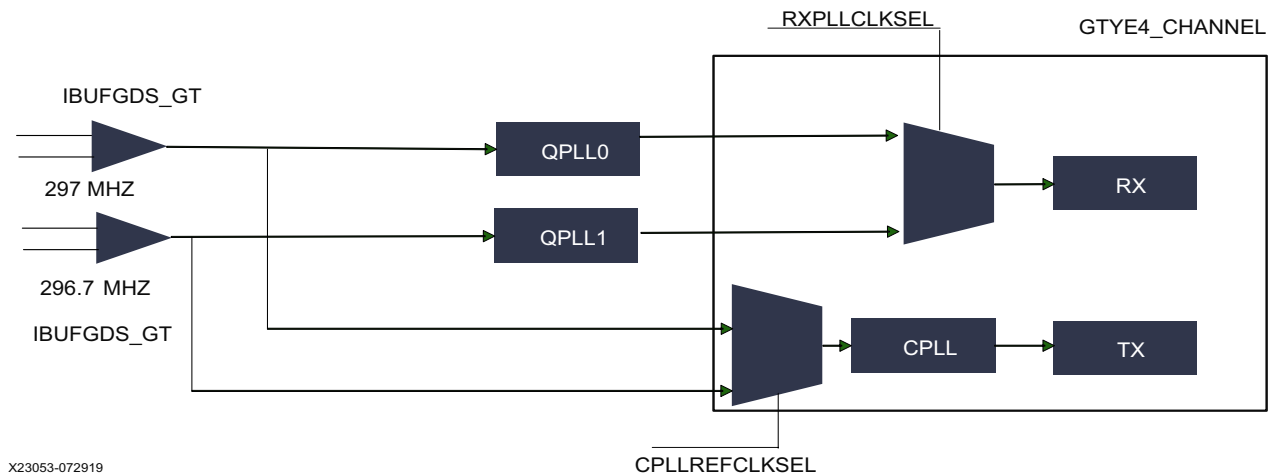

Figure 3-1: GT Clocking Architecture in Loopback Example Design
**IMPORTANT:** When using QPLL0 and QPLL1 for 12G-SDI integer and fractional (1/1.001) rate change, switching between rates on the SDI-RX can introduce a glitch on the clock which in turn introduces CRC errors on the TX channel. CRC errors do not occur in SD-SDI/HD-SDI/3-G SDI/6-G SDI integer/fractional modes with QPLL0 and QPLL1 clocking combination. For more information, see Answer Records 72254 and 72449. Therefore, it is not recommended to use this clocking configuration when both transmit and receive 12G-SDI integer and fractional modes use the same transceiver. If required, Xilinx recommends to use a CPLL-QPLL combination with CPLL for TX and QPLL0/1 for RX as shown in Figure 3-1.